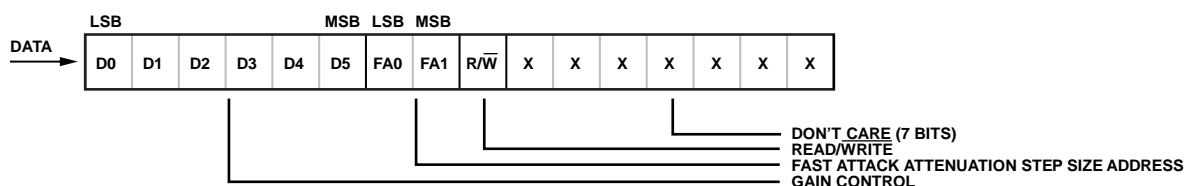

Figure 53. 16-Bit SPI Register
The SPI uses three pins (SDIO, SCLK, and  $\overline{CSA}$  or  $\overline{CSB}$ ). The SPI data register consists of two bytes: six gain control bits (D0 to D5), two attenuation step size address bits (FA0 and FA1), one read/write bit (R/W), and seven don't care bits (X), as shown in Figure 53.